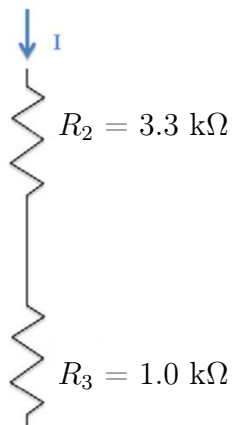
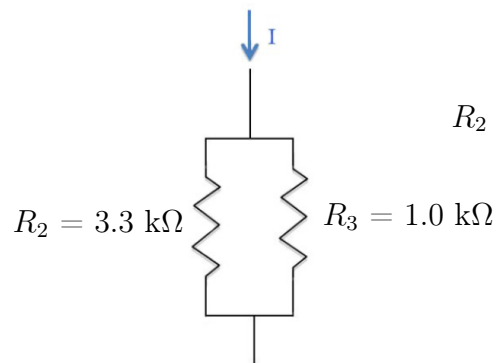
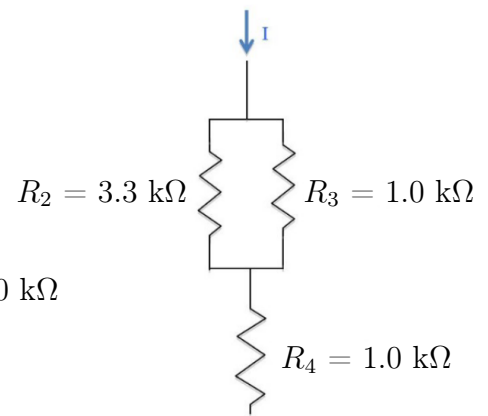

Figure 1: Series
Figure 2: Parallel
Figure 3: Series/Parallel
A resistor generally means a device that obeys Ohm's Law (many devices do not) and has a resistance R . Two (or more) resistors can be connected in series (as in Figure 1), or in parallel (as in Figure 2). Resistors could also be connected in a series/parallel circuit like Figure 3.
A more complex circuit like Figure 3 can be handled by noting that R_2 and R_3 are in parallel and can be reduced to an equivalent resistance using Equation 3. That equivalent resistance is then in series with R_4 and can be treated using Equation 2 to find the equivalent resistance of the entire series/parallel circuit.
4. Set up the circuit shown in Figures 1 & 5.
7. Set up the circuit shown in Figures 2 & 6. Repeat steps 5 & 6.
8. Set up the circuit shown in Figures 3 & 7. Repeat steps 5 & 6